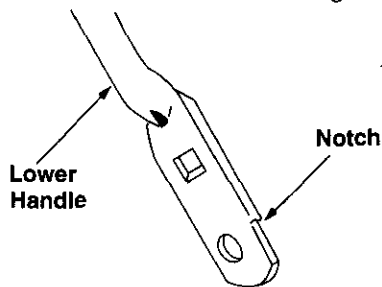

Figure 16
- Turn the lower handle around so the notch on the bottom of the lower handle is facing forward as shown in Figure 16. Reassemble, placing the bottom hole on the handle over the weld pin in the handle mounting bracket. Reinsert hairpin clip in the hole on weld pin. Repeat on other side.